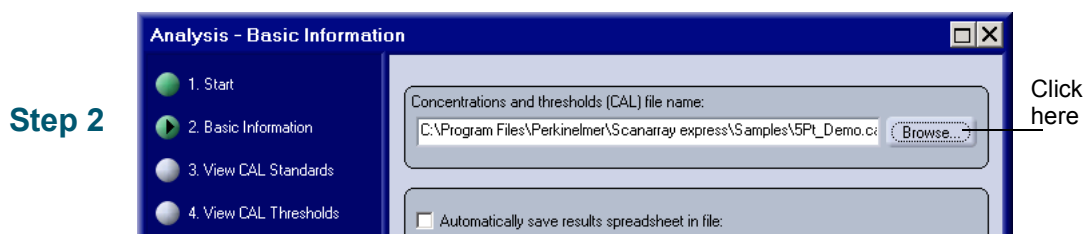

Figure 2-3 The Analysis Wizard, Basic Information Window
1. In the *Analysis - Basic Information* window, click **Browse**. See Figure 2-3.